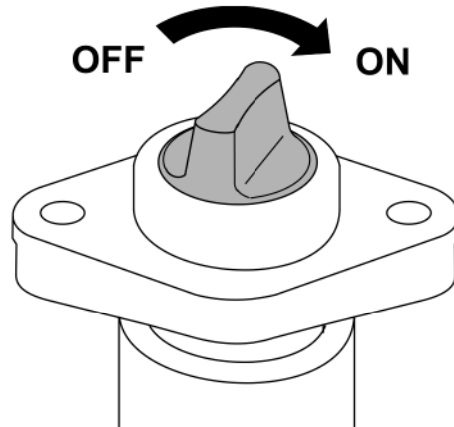

FIG. 4.25 Main switch of control panel
To switch on power supply, turn main switch (FIG. 4.25) clockwise to (ON) position - switched on.